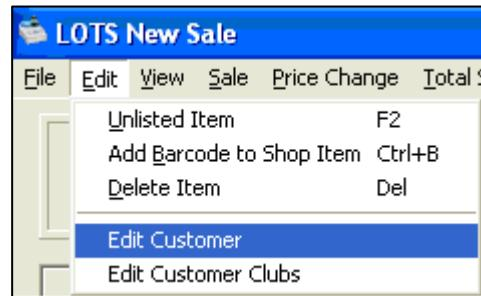

Figure 385
1. Navigate from the LOTS Start Menu → Sales → Edit drop-down menu → Edit Customer (see Figure 385).